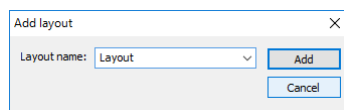

Figure 9 – Add layout dialog
2. Enter the new layout name in the **Add layout** dialog (see Figure 9), and click **Add** button. New layout will be automatically added to **Other layouts** list using the name entered.